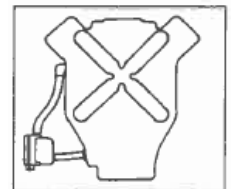
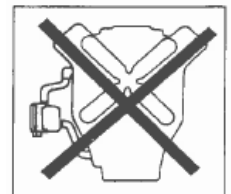

Figure 1 – Correct Installation
Figure 2 – Incorrect: Heater Mounted Too High
3. Determine the Heater Outlet Connection- Plan to splice the heater outlet hose into the hose line coming from the passenger compartment heater to the engine block. Keep the outlet hose length as short as possible but maintain a minimum rise of 12 inches to ensure proper circulation. Avoid selecting a heater location that requires the hose to be routed in a manner that will restrict coolant flow such as routing over the top of the engine block. Avoid sharp bends or loops to ensure against airlocks. Coolant may not circulate if airlocks are present. See Figures 1 to 4.
- It is best to mount the heater below the lowest point of the cooling system to ensure that adequate pressure head is provided to the heater inlet and to ensure that thermosyphon coolant flow is maximized. See Figure 1. Coolant flow may be restricted if the heater is mounted too high. See Figure 2.